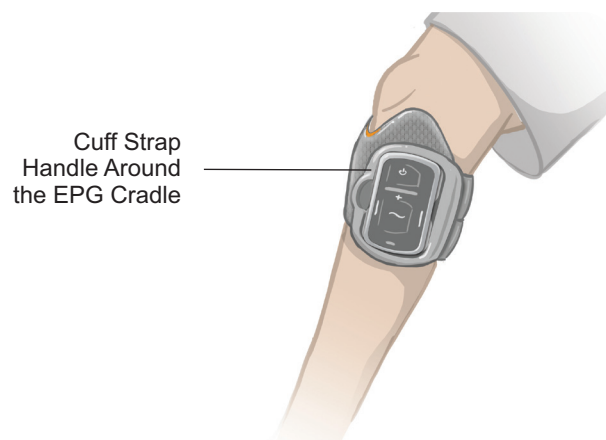

Figure 6-1: Regular Lower Leg Cuff fastened on the right leg.
The Lower Leg Cuff Strap is used to hold the Lower Leg Cuff in place on the leg. The Lower Leg Cuff Strap is elastic, and fastens around the leg and the EPG Cradle. See Figure 6-1. The cuff strap for the Regular Lower Leg Cuff comes in four sizes: small (S), medium (M), large (L), and universal. The cuff strap for the small Lower Leg Cuff comes in two sizes: extra small (XS) and extra extra small (XXS).